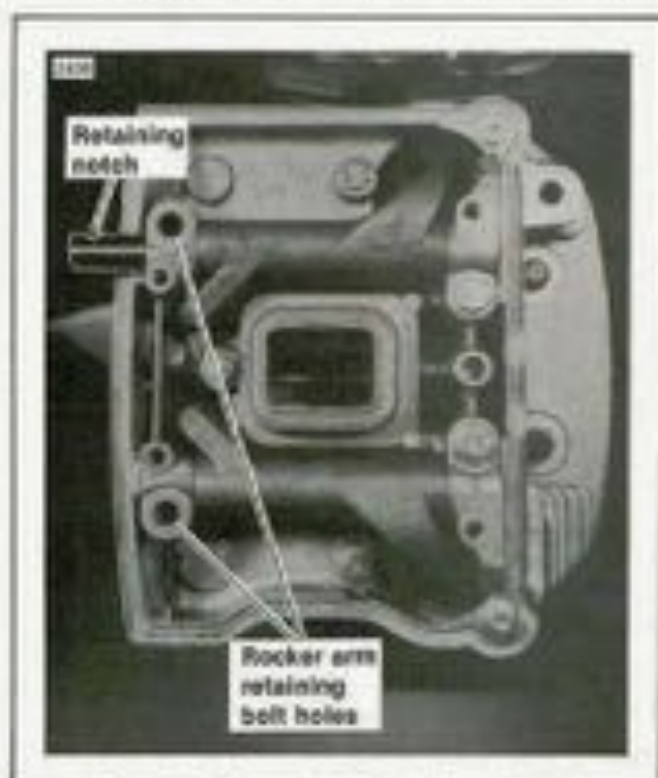

Figure 3-3. Removing Rocker Arm Shafts
- See Figure 3-3. Remove the two 5/16 in. bolts nearest the rocker arm shafts at the push rod end.